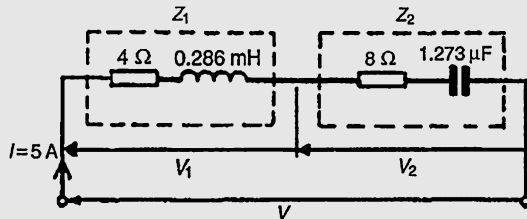

Figure 15.17
**Problem 17.** Determine the p.d.s  $V_1$  and  $V_2$  for the circuit shown in Fig. 15.17 if the frequency of the supply is 5 kHz. Draw the phasor diagram and hence determine the supply voltage  $V$  and the circuit phase angle.